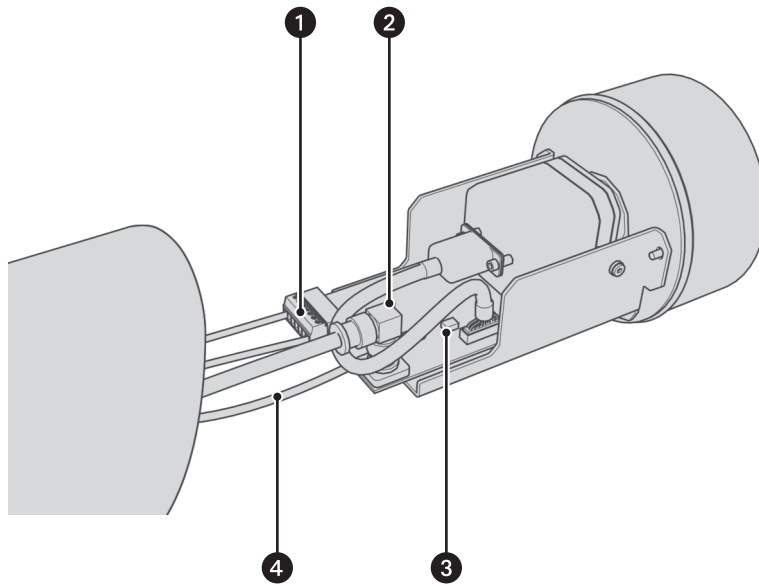

Figure 4. Camera Assembly
3. Run the power cable through the enclosure to the camera assembly (refer to Figure 4).
3. Run the power cable and serial cable through the enclosure to the camera assembly (refer to Figure 4 on page 10).